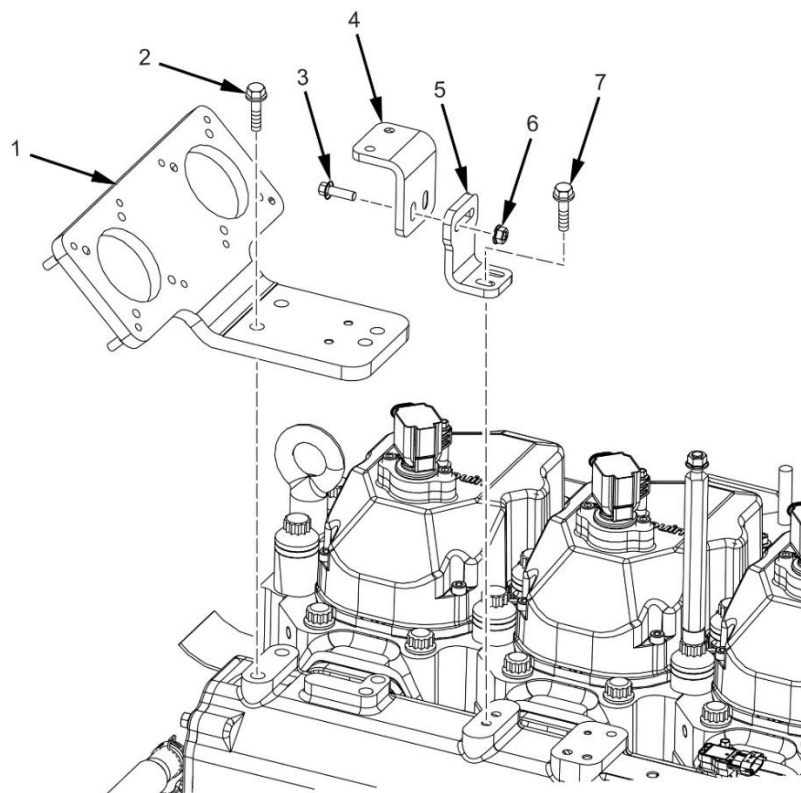
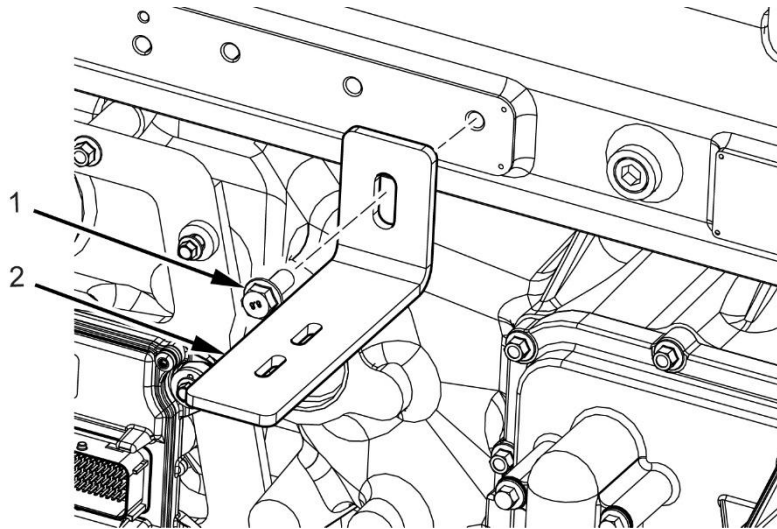

Figure 32. DEPR Bracket Assembly
Figure 33. Lock Off Valve Bracket Assembly
3. Remove the four bolts (Figure 32, Item 2) from the dual fuel mixer bracket (Figure 32, Item 1) and remove the dual fuel mixer bracket.
4. Remove the two bolts (Figure 32, Item 3) and nuts (Figure 32, Item 6) from the upper dual DEPR bracket (Figure 32, Item 4) and lower dual DEPR bracket (Figure 32, Item 5).
5. Remove the two bolts (Figure 32, Item 7) from the lower dual DEPR bracket (Figure 32, Item 5) and remove bracket.
6. Remove bolt (Figure 33, Item 1) and bracket (Figure 33, Item 2) from intake manifold.
2. Install bracket (Figure 33, Item 2) to intake manifold with two bolts (Figure 33, Item 1).
3. Install the lower dual DEPR bracket (Figure 32, Item 5) two bolts (Figure 32, Item 7).
4. Install two bolts (Figure 32, Item 3) and nuts (Figure 32, Item 6) to the upper dual DEPR bracket (Figure 32, Item 4) and lower dual DEPR bracket (Figure 32, Item 5).
5. Install the dual fuel mixer bracket (Figure 32, Item 1) with four bolts (Figure 33, Item 2) to the intake manifold.